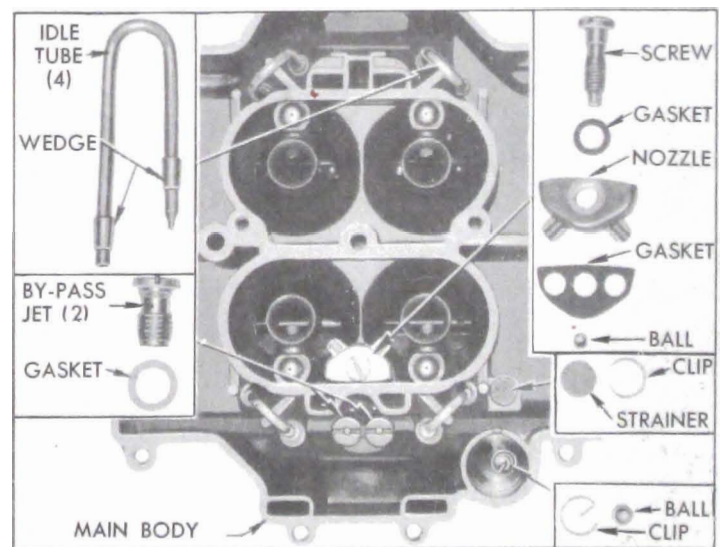

Figure 3-89—Parts in Main Body
10. Remove both power by-pass jets and gaskets. See figure 3-89.
11. Remove pump discharge nozzle screw, nozzle and gaskets. Place hand on top of main body and invert body to catch the check valve ball located in discharge channel. See figure 3-89.
clip, using long nosed pliers, then remove check valve ball. See figure 3-89.
15. Place check valve ball in bottom of pump cylinder and install retainer clip, using Replacer T-25360 (fig. 3-72) or long nosed pliers. Inner end of clip must point down towards ball. See figure 3-89.
16. Install pump discharge channel check ball, then install *new* nozzle gasket, discharge nozzle, and nozzle screw with *new* gasket. See figure 3-89.
17. Install both power by-pass jets with *new* gaskets. See figure 3-89.